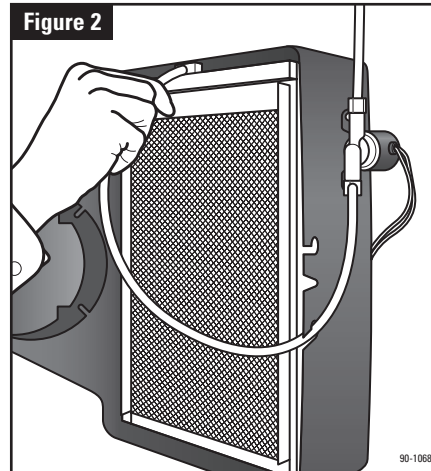

Figure 2
6. Reinstall the evaporative assembly back into the base, with the bottom of the scale control insert (6) sitting firmly in the inside of the drain spud (9). Push the feed tube
- back into the water distribution tray. (See Figure 2) Put the front cover back on. If the nameplate (11) is upside down, remove it and rotate the nameplate so it is right side up, and snap back into place. Turn damper handle (8) to the open position "WINTER" for the heating season, or closed position "SUMMER" for the cooling season.